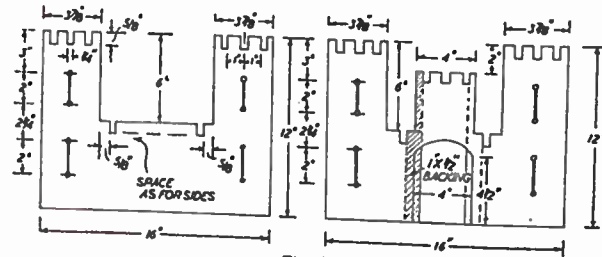

Fig. 4
The two centre-rails (D) are also tenoned in position, but stub tenons are made as shown in Fig. 4. They should be quite short, about $\frac{1}{4}$ in. will be sufficient.
The 'north' and 'south' ends differ in layout and are detailed in Fig. 4. Again these are cut from hardboard, using the same technique as previously. Finish the extreme edges perfectly true and square and fasten to each end of the base. Tower joints are glued and should be reinforced in places with pins. The best method of fitting the pins is to drill through the facing piece of hardboard and then position the pin carefully and drive home. Two or three pins in each
In these vessels the deck beams protruded outwards from the side of the hull and formed a fulcrum for the oars, to which they were secured by leather thongs as in Fig. 4.